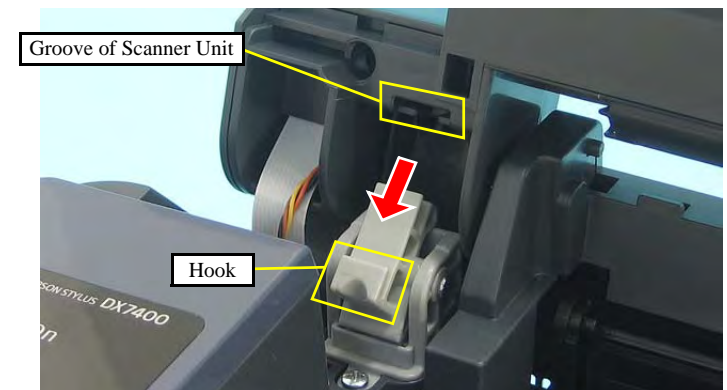

Figure 4-10. Installing the Scanner Unit
- When installing the Scanner Unit, engage the groove of the Scanner Unit with the hook of the Hinge as shown in Figure 4-10.